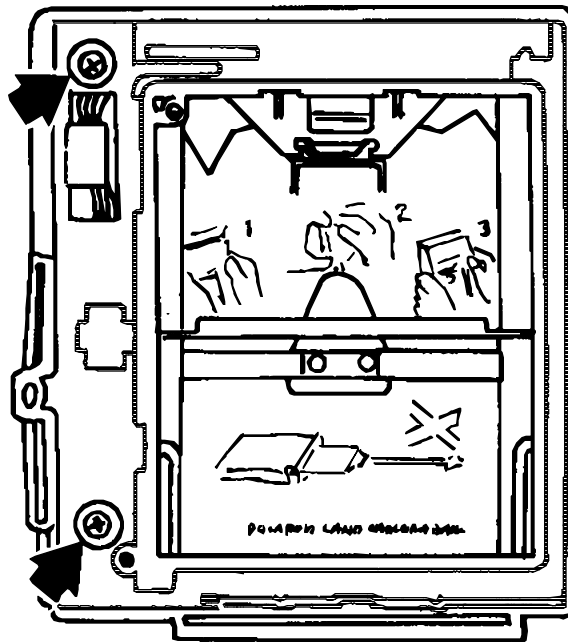

Figure 4-20 Removing Retaining Bracket Screws
- 9.2 Remove two screws from retaining bracket. (Fig. 4-20)